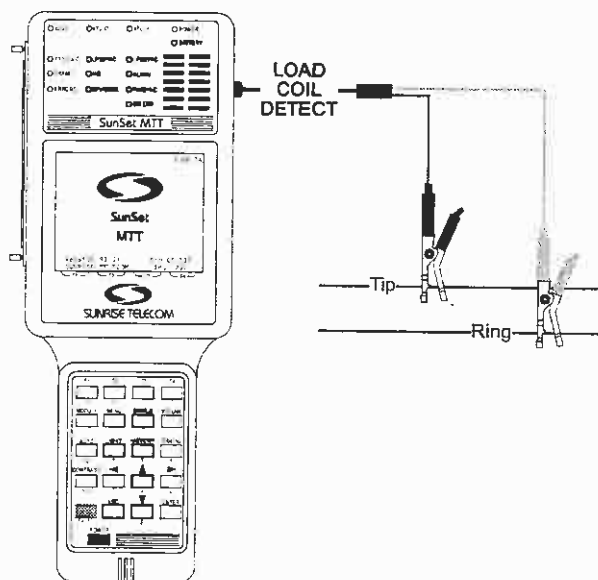

Figure 10 Connecting the SunSet MTT to the Cable Pair
1. Connect the SunSet MTT to the circuit as shown in Figure 10. Plug an RJ-45 into the SunSet MTT Load Coil Detector jack. Connect the alligator clips at the other end directly to the cable pair. There must be an open at the far end for this test.